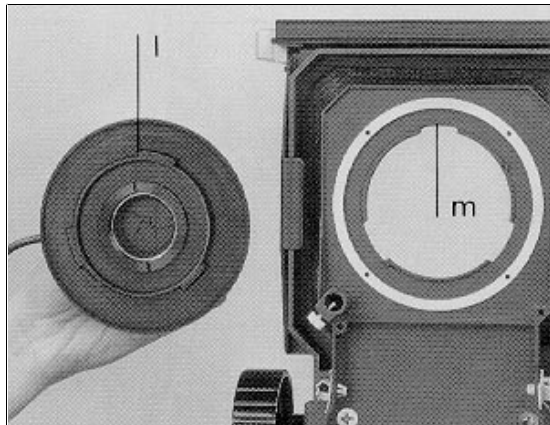

Figure 2-18. Small Tab on Shutter
b. Align the smallest of the three tabs (l, figure 2-18) on the shutter panel with the smallest of the cutouts (m) on the camera body.